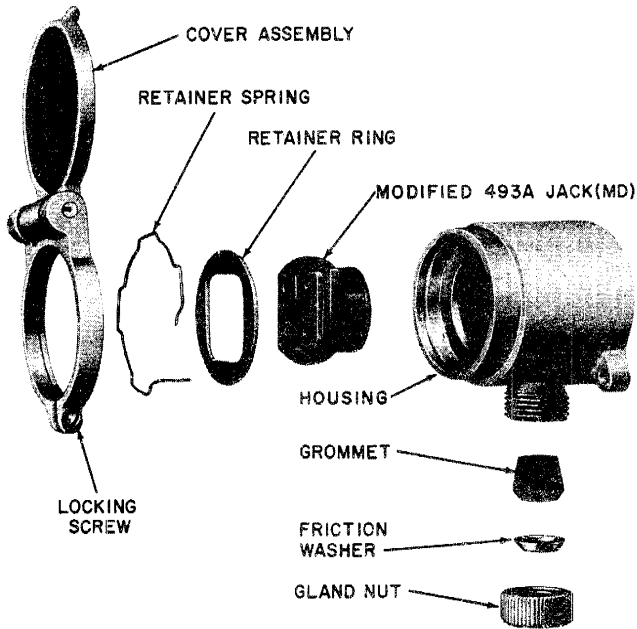

Fig. 3 — Assembly of KS-16151, List 1 Jack (MD)
KS-16151, List 1 Jack (MD) Fig. 3